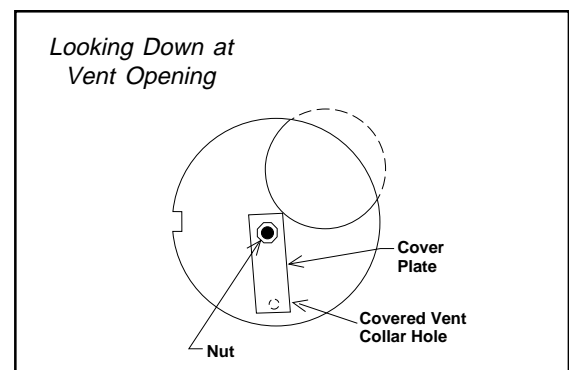

Figure 9. G6RA Vent Collar Detail
2. Remove the nut and restrictor plate from the vent collar assembly and discard the restrictor plate. Remove the cover plate from the envelope attached to the furnace literature, and fit the clearance hole over the weld stud. The cover plate must cover the hole(s) on the vent collar assembly. Tighten the nut securely while holding the cover plate in position. (See Figure 9.)